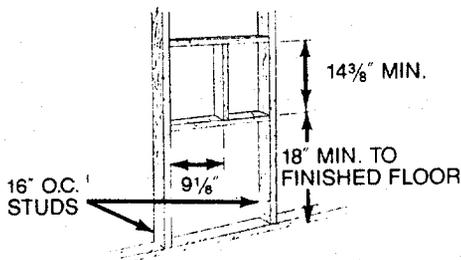

Figure 3 — Header Location
- a. MAKE SURE THAT OUTLET CORNER IS AT THE BOTTOM RIGHT HAND CORNER. Toe-nail two 2 x 4" headers, 32⅜ inches apart on center at the desired height (see Figure 3).